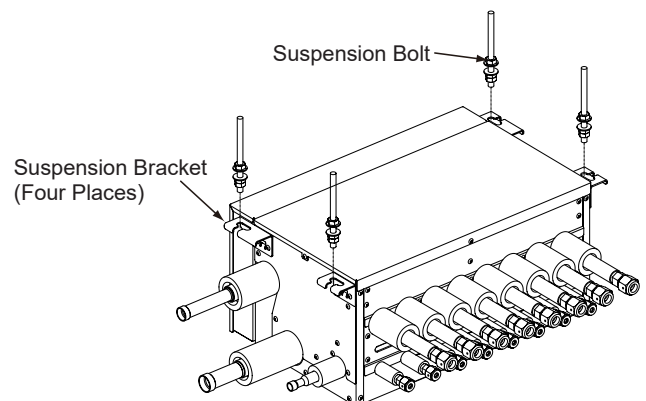

Figure 7.5 Hanging Method
(2) Hanging the Switch Box
- (b) Insert the suspension bolt into the groove part of the suspension bracket as shown in Figure 7.5. Ensure that the washers are correctly affixed to the suspension bracket.